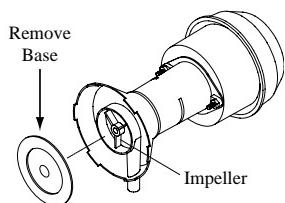

Fig. 12
- Clean pump.** Cleaning the pump is necessary once a year at start-up. For your safety, turn unit off and unplug motor and pump. Remove the pump from the mount slot. Remove the base of the pump as shown in Fig. 12. Clean the pump and turn the impeller to ensure free operation. Remove the pump